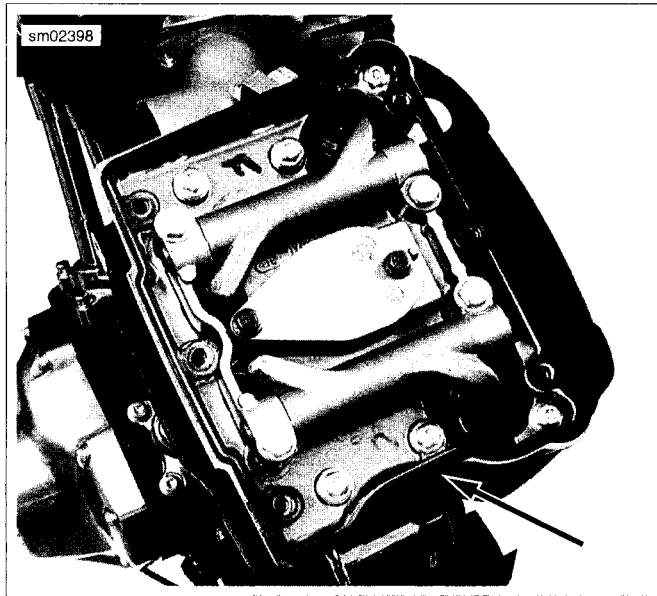

Figure 3-48. Rocker Cover Gasket Indent (Front Cylinder Shown)
2. See Figure 3-48. Install a **new** rocker cover gasket with indent facing forward on the rocker housing flange. Place the rocker cover into position aligning the holes in the cover with those in the gasket.